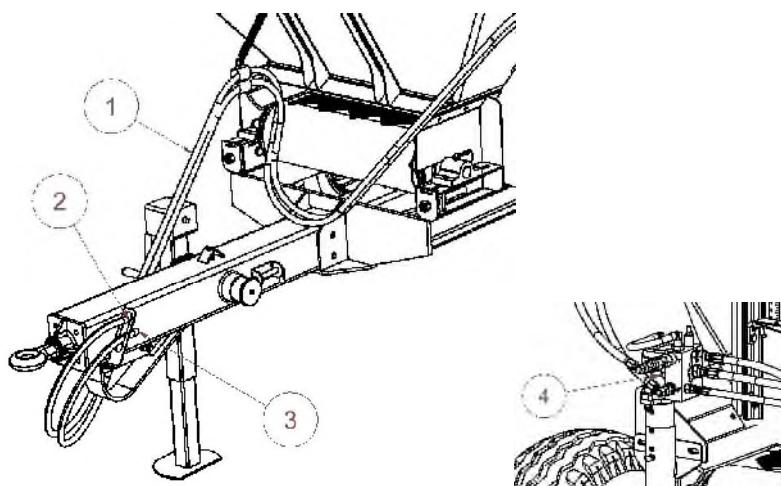
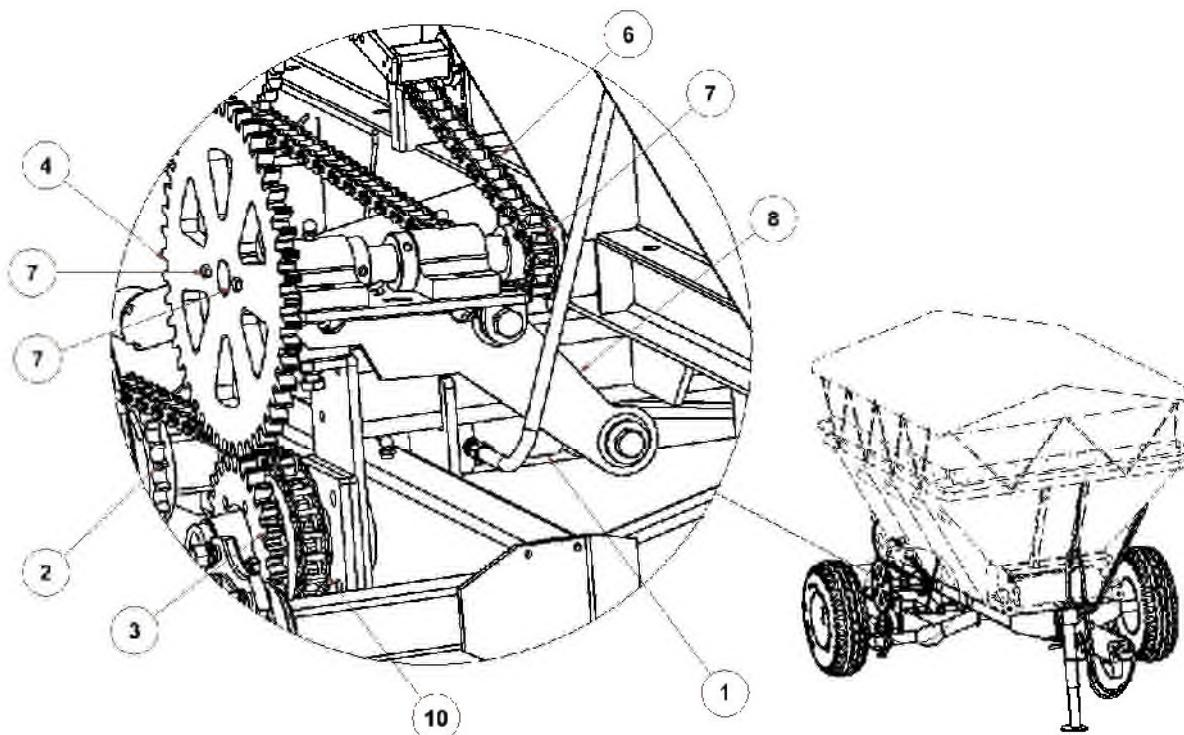

Figure 4 - Hoses
Figure 5 – Drive Assembly
17. The spreader hydraulic system is powered from the tractor hydraulic system via two hydraulic hoses (1) (Fig 4). The functions and operation of the spreader are controlled from the tractor.
- Figure 5 details the drive assembly (8) in the disengaged position. The drive is held in the engage position by a hydraulic cylinder (1) (Fig 5).
- The right rear spreader wheel powers the feed belt via drive chain (10) driven from the wheel sprocket (2) to the idler sprocket (3) (Fig 5).
- When the spinners are engaged, the drive assembly (8) is lowered and meshes the large gear (4) with the small gear (3) that rotates on the idler shaft. When the spinners are disengaged, 2 x springs under the saddle lift the gear assembly to the position shown in Fig 5 allowing engagement cylinder (1) to vent oil back thru the main return line (3) (Fig 4).